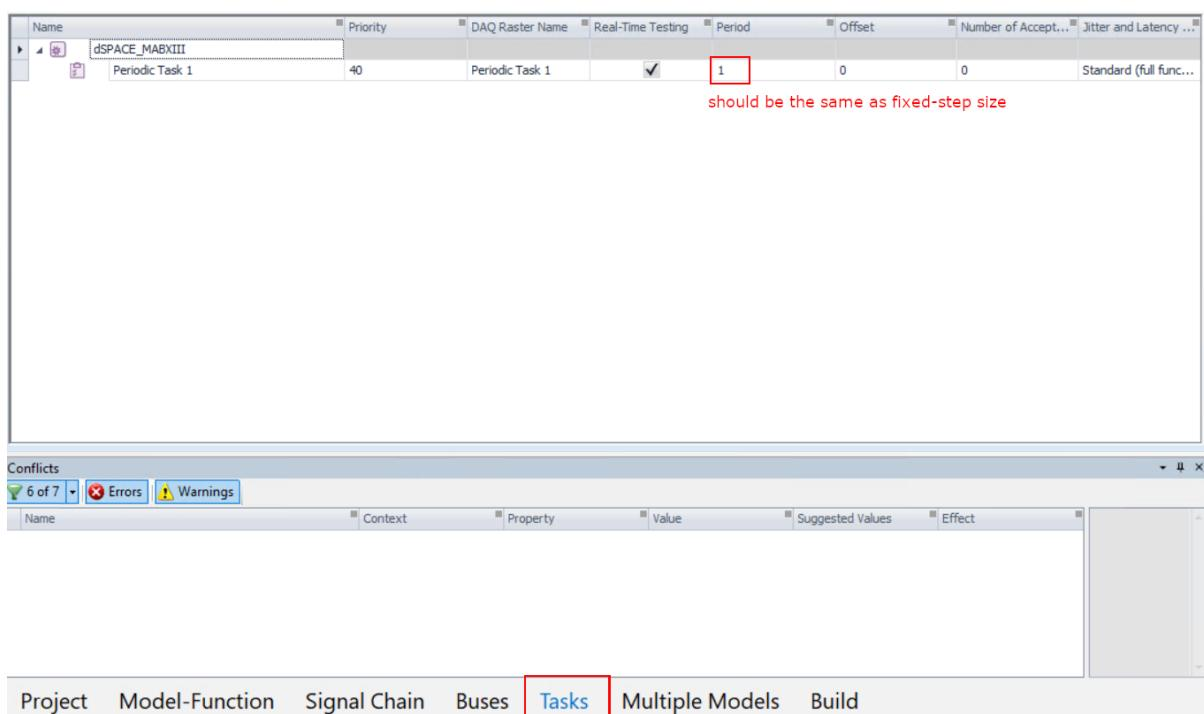

Figure 13.72: Set period of Periodic Task.
- 16) Go to the tasks tab and make sure the period of the Periodic Task matches the fixed step size selected in the Simulink model options (see Figure 13.72).